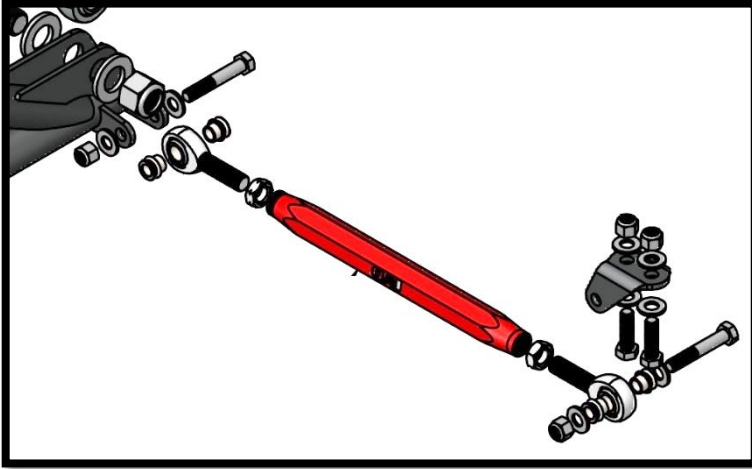

Figure 21
43. Install two high misalignment spacers into both rod ends before attaching to the torque arm using 3/8" x 2-1/4" bolt, two washers and nylock nut. Torque to 31 lb. ft. **(Figure 21)**